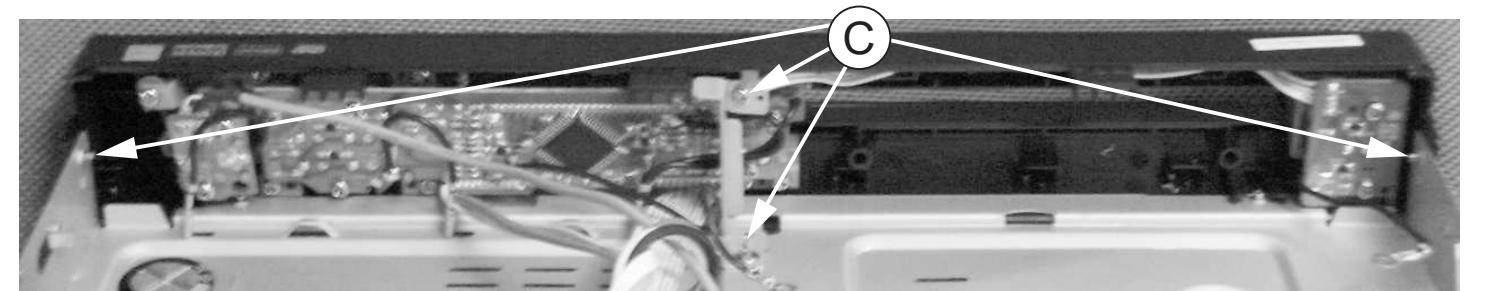
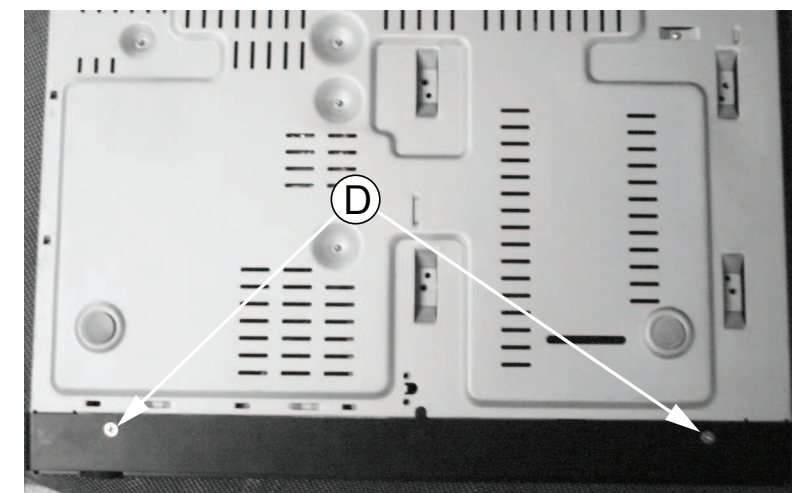

Figure 6
Figure 7
- 4) Loosen 6 screws "C" & "D" at the bottom panel as in figure 6 & figure 7 to remove the front panel.